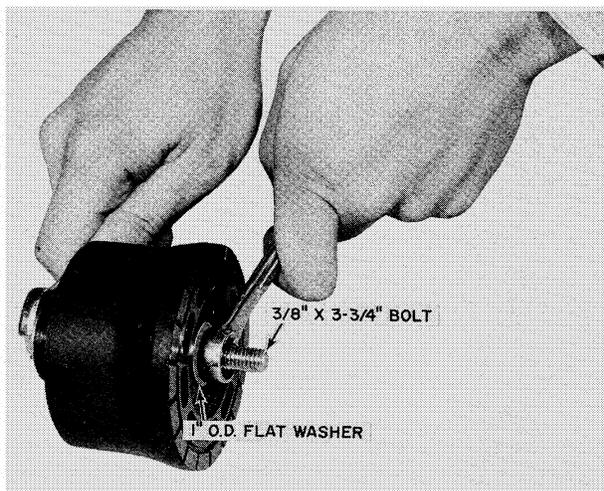

FIGURE 20
10. The cylinder block sub-assembly consists of a snap ring, two washers, and a heavy spring. **WARNING! TO AVOID INJURY, USE A $\frac{3}{8}$ " x $3\frac{3}{4}$ " BOLT, NUT AND TWO 1" DIAMETER FLAT WASHERS TO RELIEVE SPRING TENSION BEFORE REMOVING THE SNAP RING FROM THE BLOCK.** See Figure 20.